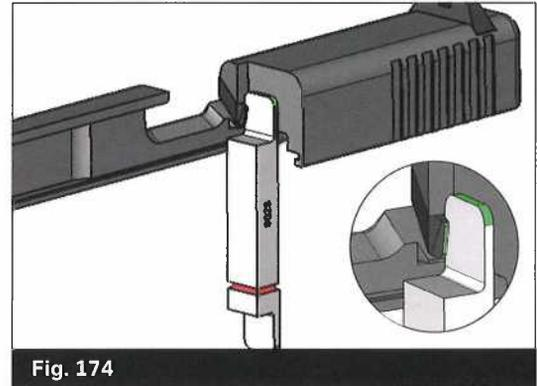

Fig. 174
**“GO”** The gauge passes behind the extractor claw. (Fig. 174)